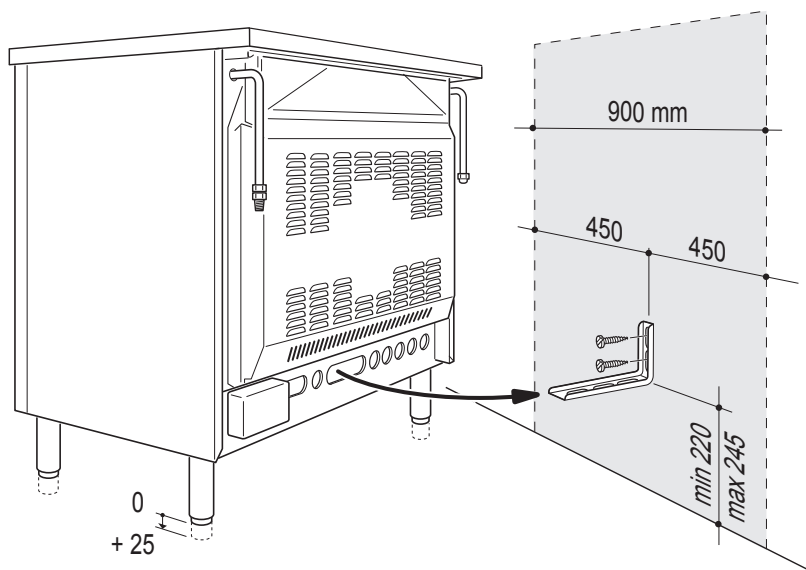

Fig. 8.8
1. After you have located where the cooker is to be positioned, mark on the wall the place where the two screws of the anti-tilt bracket have to be fitted. Please follow the indications given in fig. 8.8.
4. Move the cooker to the wall and adjust the height of the anti-tilt bracket so that it can engage in the slot on the cooker's back, as shown in fig. 8.8.